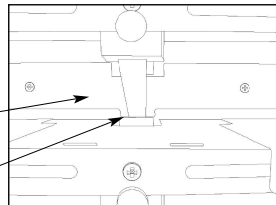

Figure 1
2. Look in each feed shelf of your unit, and verify that the tips of the sheet Separator (see Fig. 1) are not in contact with the feed wheels. These are preset at the factory and should not need to be adjusted.